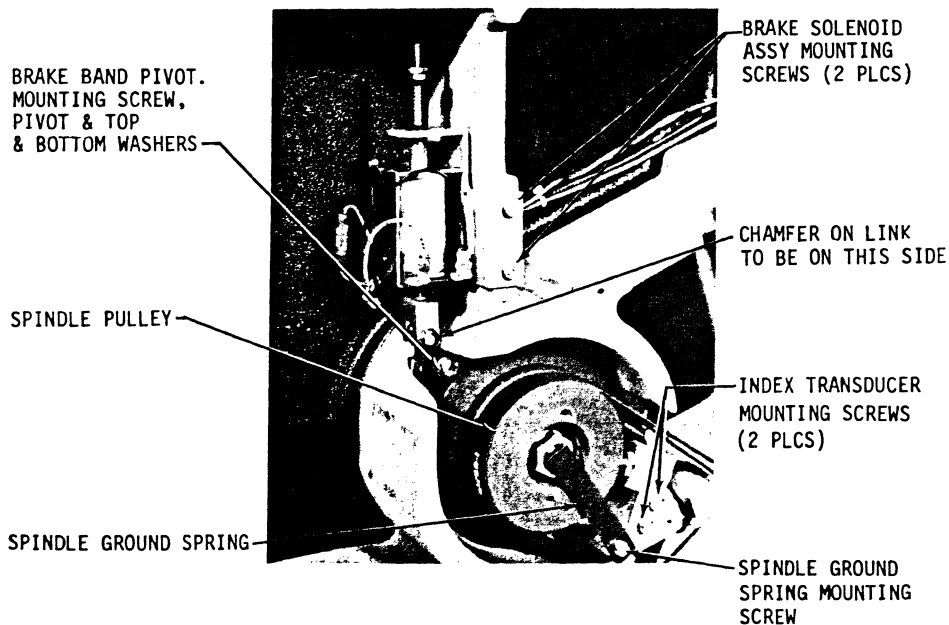

Figure 5-25
in Fig. 5-25.
- e) Remove brake band pivot screw, top and bottom pivot washers and brake band pivot. See Fig. 5-25.
- f) Remove the brake assembly by removing the two mounting screws shown in Fig. 5-25.
Make sure chamfer on brake band link is oriented as shown in Fig. 5-25.